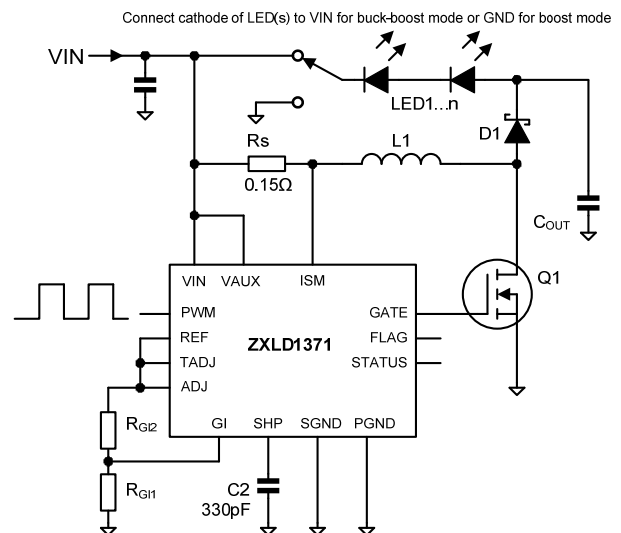

Figure 3. Boost and Buck-boost configuration
b) Boost and Buck-Boost modes – the most simple boost/buck-boost circuit is shown in Figure 3
The average current in the LED, I_{LED} , is always less than I_{RS} . The feedback control loop adjusts the switch duty cycle, D, to achieve a set point at the sense resistor. This controls I_{RS} . During the interval t_{OFF} , the coil current flows through D1 and the LED load. During t_{ON} , the coil current flows through Q1, not the LEDs. Therefore the set point is modified by D using a gating function to control I_{LED} indirectly. In order to compensate internally for the effect of the gating function, a control factor, G_{I_ADJ} is used. G_{I_ADJ} is set by a pair of external resistors, R_{GI1} and R_{GI2} . (Figure 3.) This allows the sense voltage to be adjusted to an optimum level for power efficiency without significant error in the LED controlled current.